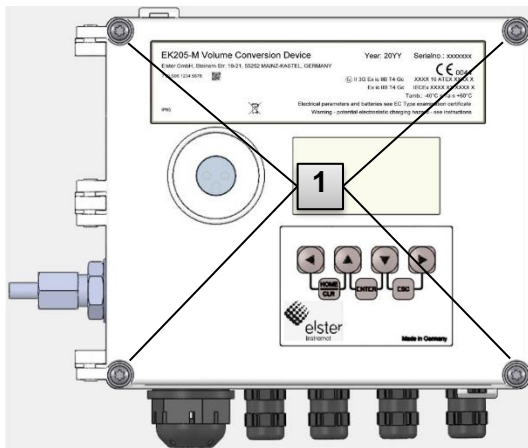

Fig. 42
1. Loosen the four housing screws (Fig. 42: 1).
8. Close the housing using the intended screws (Fig. 42: 1).